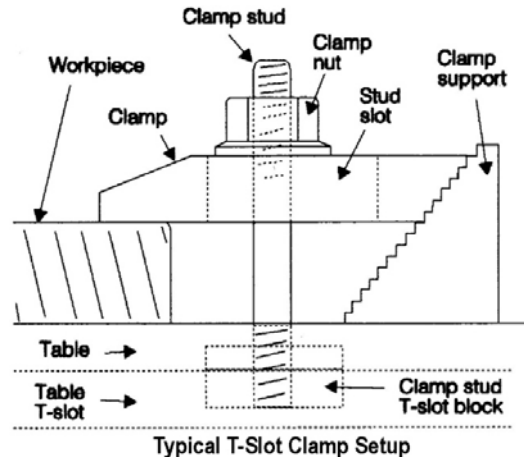

Figure 7: Work piece clamping
3. Clamp work piece using T-slot clamps, studs, and step blocks as required. See Figure 7.